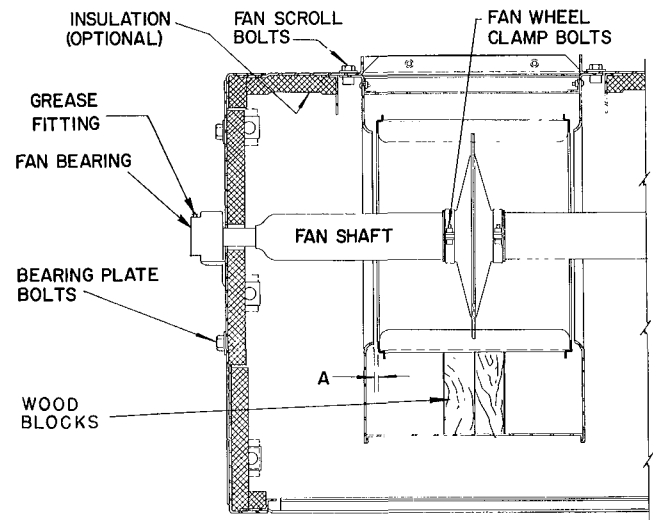

Fig. 7 – Fan Longitudinal Section
3. Loosen fan wheel clamp bolts. Remove four bearing plate bolts at one end of unit only. Refer to Fig. 7.
Dimension A must be equal on both sides of fan wheel. Correct by loosening fan wheel clamp bolts and sliding fan wheel as required. Tighten bolts securely. Refer to Fig. 7 - dimension A.
2. Loosen and remove fan scroll mounting bolts. Refer to Fig. 7. Block up fan scrolls to prevent dropping.